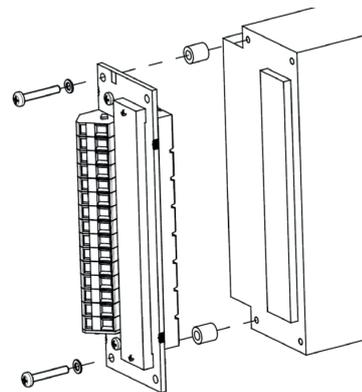

Fig. 24
- Cage clamp adapter HZZ00144-G; see fig. 24